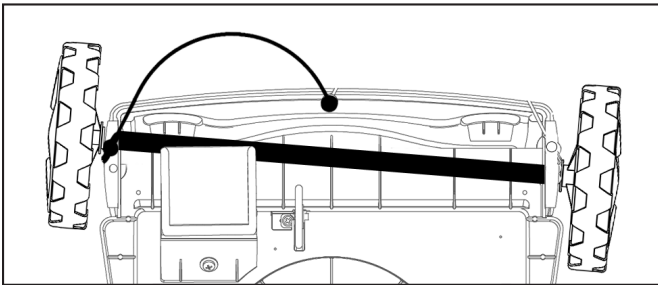

Figure 8. Change Wheel Turning Direction
1. Turn the cleaner upside down. Locate the wheel pins on the axle: one adjustable pin; one fixed pin. (Figure 8)